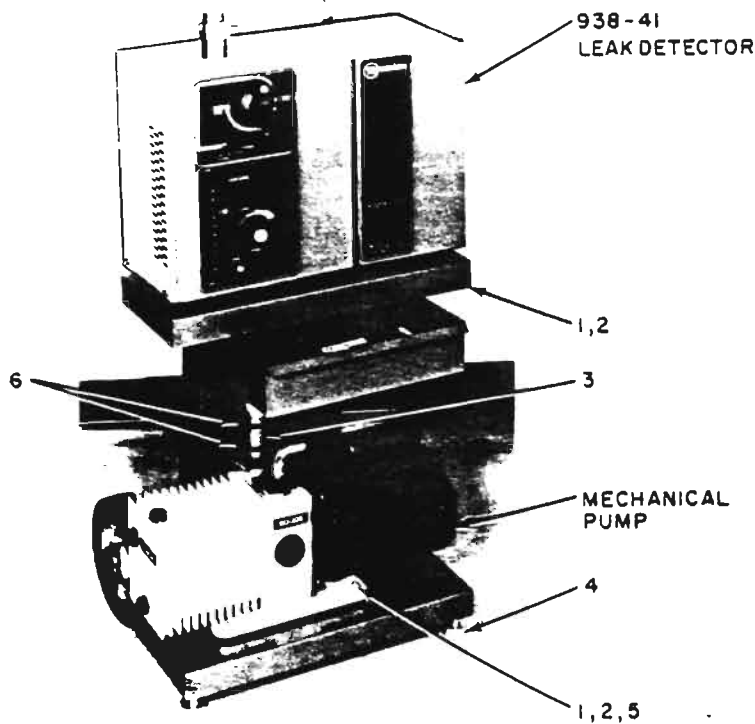

Fig. 8-12. Cart Model, Front View
**CART MODEL, FRONT AND REAR VIEWS (Figs. 8-12, 8-13)**